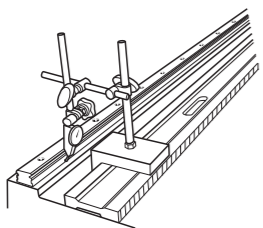
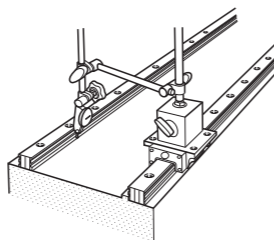

Fig. 34 Mounting by using a straight-edge
Fig. 35 Mounting by using Linear Way of datum side
③ Use of straight-edge
- After temporarily fixing the track rail, apply an indicator probe to the reference mounting surface of the track rail as shown in Fig. 34. Tighten the mounting bolts one by one, while progressively checking the straightness of the track rail in reference to the straight-edge from one end of the track rail to the other.
① Use of reference mounting surface
② Use of mounted datum track rail as the reference
- After fixing the track rail temporarily, apply the indicator probe to the reference mounting surface of the track rail (as shown in Fig. 34). While checking the straightness in reference to the straight-edge, fix the attendant track rail by tightening the mounting bolts one by one from one end of the track rail to the other.
④ Use of datum side Linear Way
- As shown in Fig. 35, set an indicator stand on the top face of the datum slide unit and apply the indicator probe to the reference mounting surface of the attendant track rail. While checking parallelism of the two rails, fix the attendant rail by tightening mounting bolts one by one from one end of the track rail to the other.